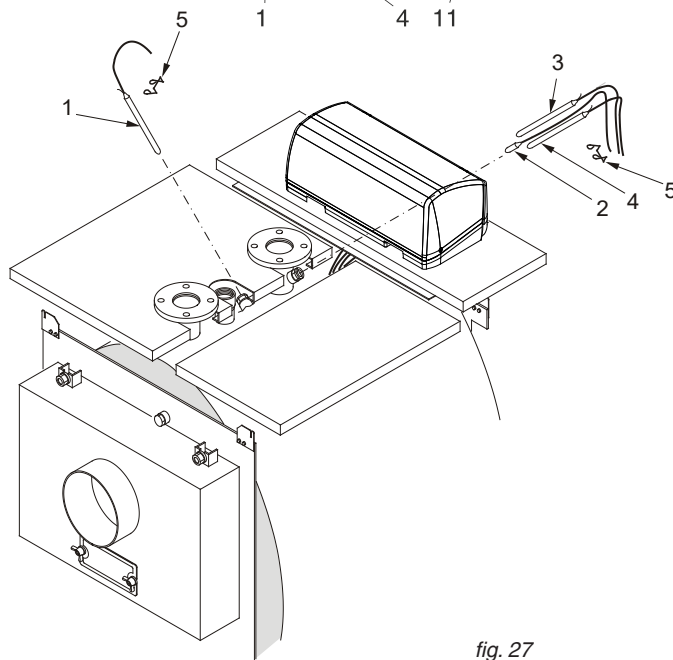

fig. 27
- F) Insert the bulbs of the instruments in the conduits as indicated in in fig. 27 and wire the panel board to the power line, to the burner and to any pumps, etc.